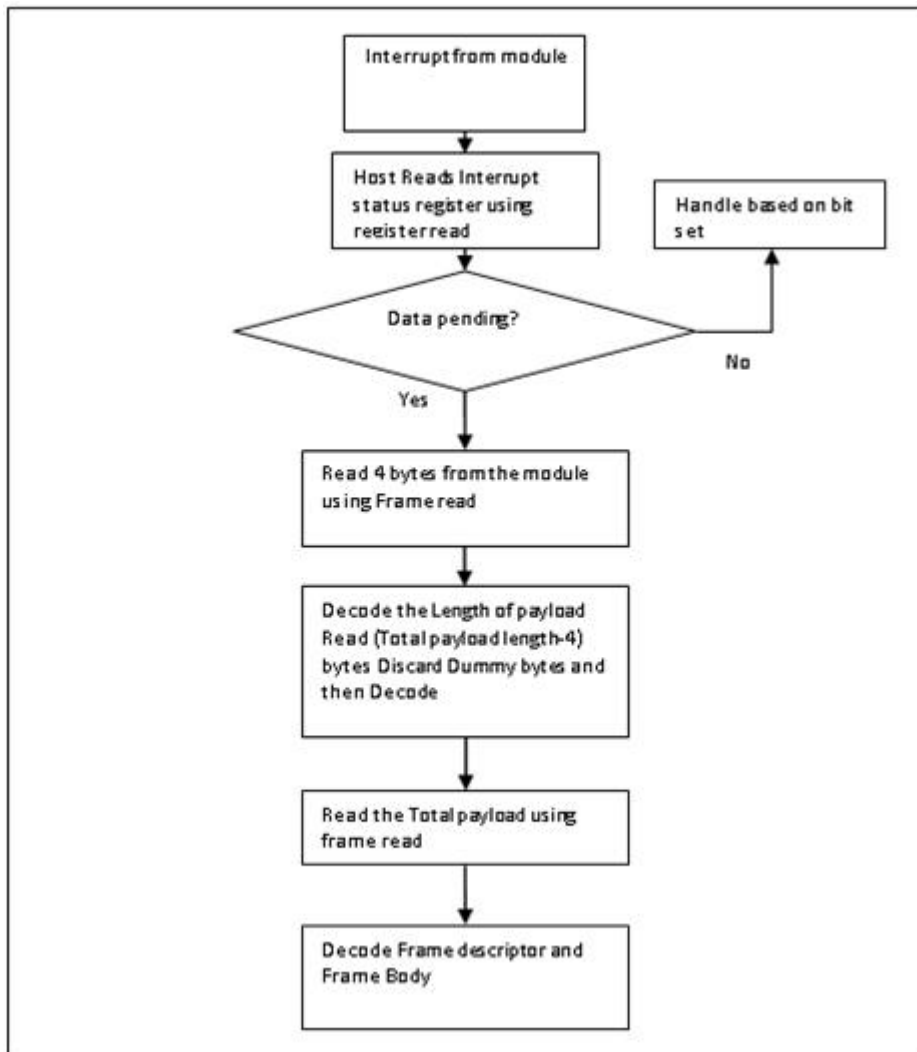

Figure 51: RX Operation from Module to Host
- Prepare command frame with headroom as shown in figure 51: Command/Data Packet format from host to module in USB mode.